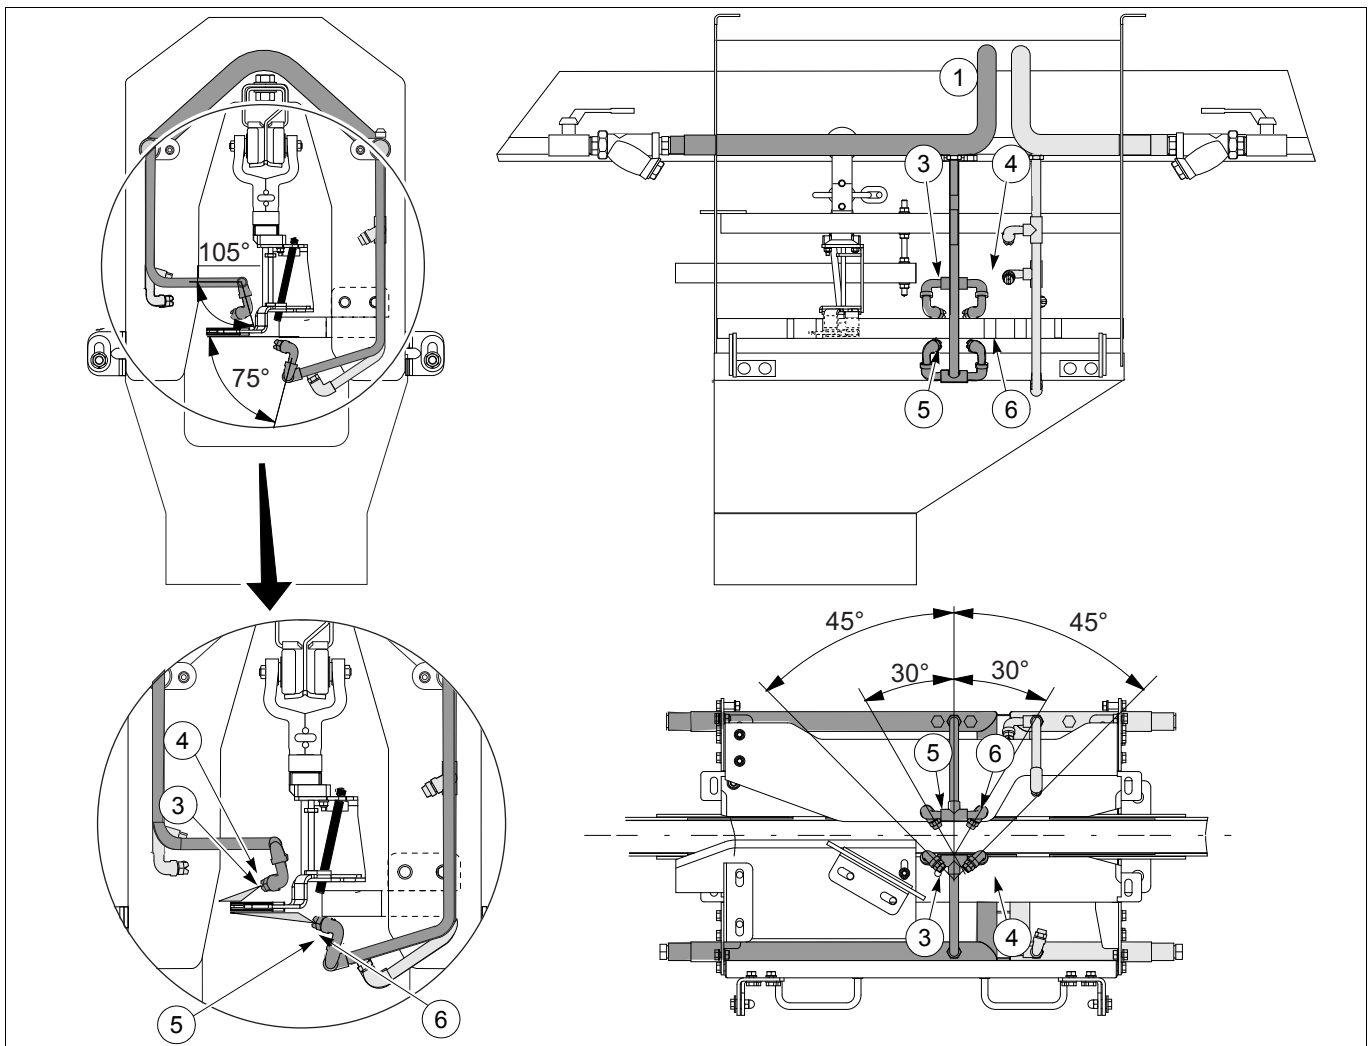

fig. 29 Setting the spray nozzles
- Set flat jet spray nozzle 3, 4, 5 and 6 as indicated in fig. 29.